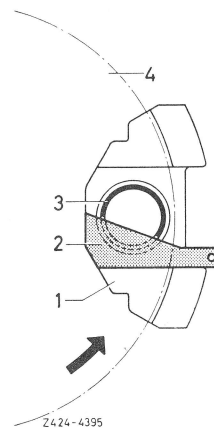

Fig. 14
**Caution!** To reduce tendency toward squealing, caliper piston is provided with an elevation. When braking, this elevation causes one-sided contact of brake shoes. Elevation on piston of caliper for diagonal swing axle must be on top (Fig. 14).